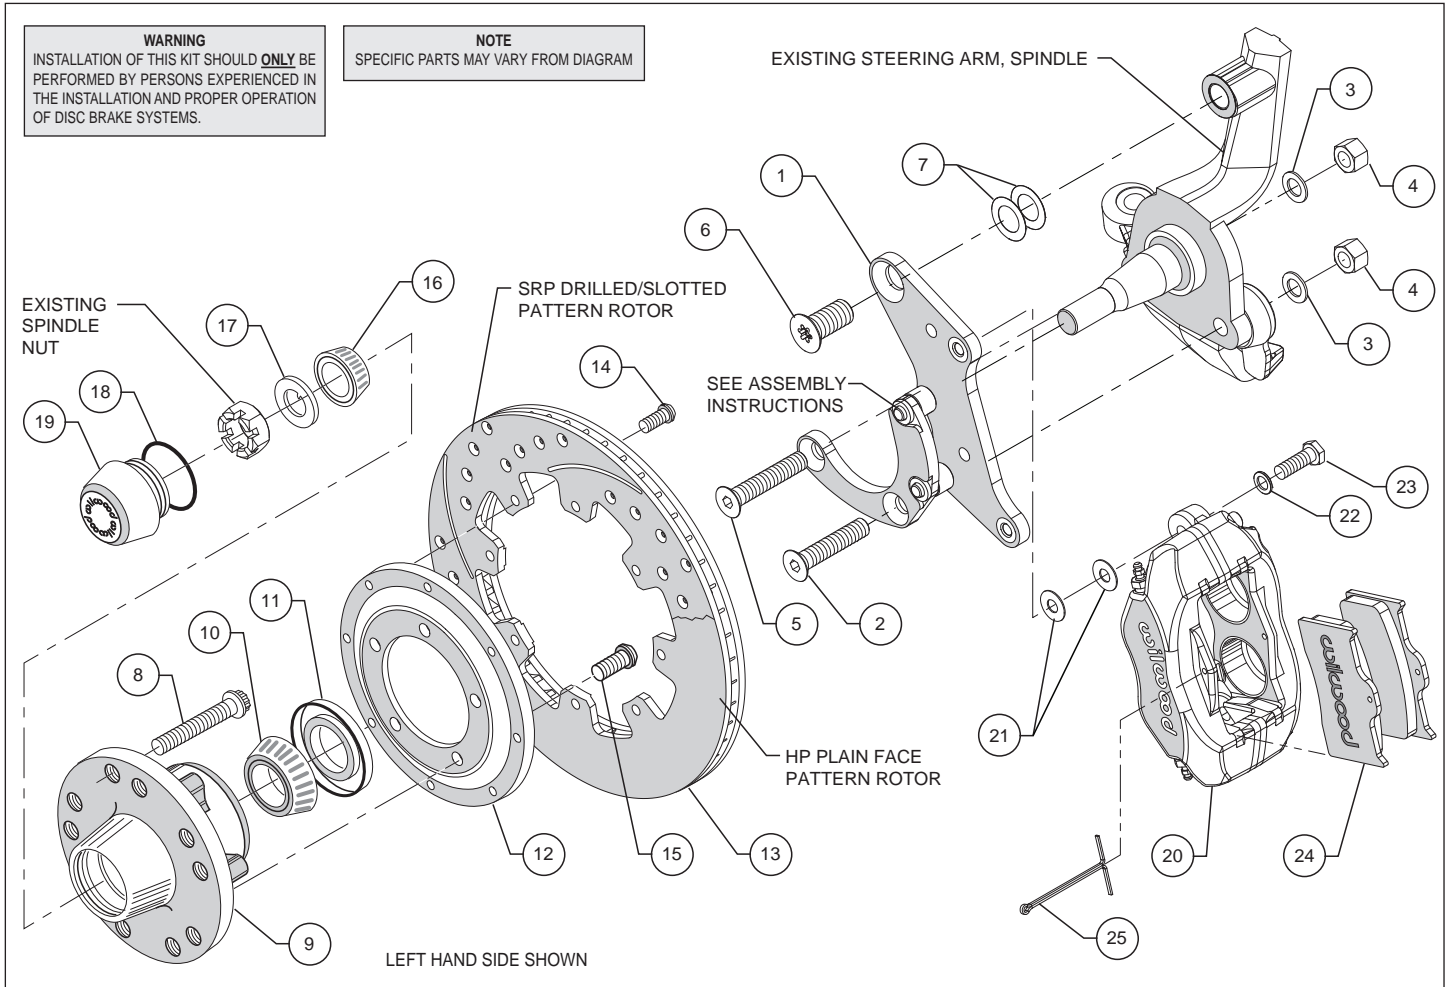
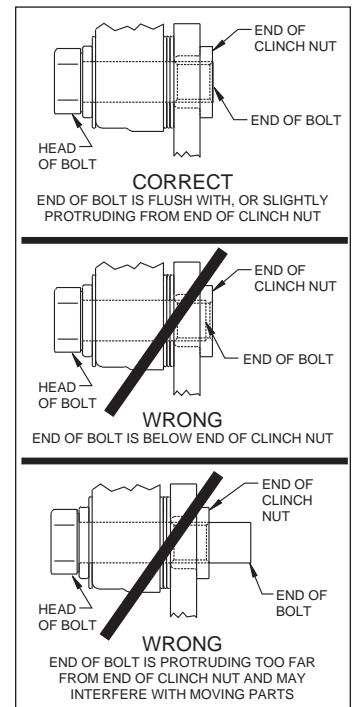

Figure 1. Typical Installation Configuration
Figure 3. Clinch Nut Engagement Diagram
Assembly Instructions (numbers in parenthesis refer to the parts list and Figure 1 on the preceding pages): **CAUTION:** All mounting bolts must fully engage clinch nuts. Be sure to check that all bolts are either flush or protruding through flanged side of clinch nut after shimming, Figure 3.
- The caliper mounting bracket (1) has been assembled at the factory for alignment purposes. Loosen the two bolts that secure the brackets together so that the bolts are hand tight only, this will enable the bracket assembly to be adjusted to accommodate various spindle tolerances during assembly. Align bracket with the two lower holes on the spindle face and attach using bolts (2 and 5), washers (3), and secure using nuts (4), as shown in Figure 1 and Photo 1. Install bolt (6) through top of bracket while placing shims (7) between bracket and spindle, Figure 1. Initially place two .010" thick shims (7) on the top bolt between the bracket and upright, Figure 1. Temporarily tighten the mounting bolts. Ensure that the flanged heads of the clinch nuts in the bracket are facing outboard, Photo 1. **NOTE:** The bracket must fit squarely against the mounting points on the spindle and be parallel with the mounting face. If not, add or subtract shims (7) on the top bolt between the bracket and spindle. Inspect for interference from casting irregularities, machining ridges, burrs, etc. Remove lower bolts one at a time, apply red *Loctite*® 271 to the threads, and torque nuts to 77 ft-lb. Remove the upper bolt, apply red *Loctite*® 271 to threads, and torque to 140 ft-lb. Remove one at a time the bolts that secure the bracket assembly to each other, apply red *Loctite*® 271 to the threads and torque to 40 ft-lb.
- Orient the rotor (13) and the rotor adapter (12) as shown in Figure 1 and Photo 4. Attach the rotor to the adapter using bolts (14). Using an alternating sequence, apply red *Loctite*® 271 to the threads, and torque to 25 ft-lb.
- Mount the adapter/rotor assembly (12/13) to the hub (9) using bolts (15), as shown in Figure 1 and Photo 5. Using an alternating sequence, apply red *Loctite*® 271 to the threads, and torque to 55 ft-lb.
- Pack the small outer bearing cone (16) with high temperature disc brake bearing grease and install into hub (9). Slide the hub/rotor assembly onto the spindle. Secure using spindle washer (17) and OEM spindle nut, Photo 6. Adjust bearings per OEM specifications. Install saved OEM nut lock (if any) and a new cotter pin (not supplied).
- Screw dust cap (19) into hub (9), Photo 7. Friction created by the o-ring (18) on the dust cap keeps it from unscrewing. **NOTE:** The O.D. of the existing OEM spindle washer may be larger than the I.D. of the dust cap not allowing it to seat against the hub face. Therefore, use the spindle washer (17) supplied with the kit instead of the OEM washer.
- NOTE:** Please reference the caution statement at the beginning of the assembly instructions. Mount the caliper (20) onto the caliper mounting bracket (1) using bolts (23) and washers (22), as shown in Figure 1. Initially place two .035" thick shims (21) on each bolt between the caliper and the bracket, Photo 8. Temporarily tighten the mounting bolts and view the rotor (13) through the top opening of the caliper. The rotor should be centered in the caliper, Photo 9. If not, adjust by adding or subtracting shims between the bracket and the caliper. Always use the same amount of shims on each of the two mounting bolts. **NOTE:** The end of each bolt must be flush with or slightly protruding from the head of the clinch nut, as shown in Figure 3. If necessary place spare shims between washer (22) and caliper mounting ear to achieve the proper clinch nut engagement. Once the caliper alignment and clinch nut engagement are correct, remove the bolts one at a time, apply red *Loctite*® 271 to bolt threads, and torque to 40 ft-lb.
- Install the disc brake pads (24) into the caliper, with the friction material facing the rotor (13), and secure in place using cotter pin (25), Photo 10.